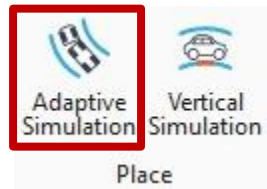

Figure 25 – Place Adaptive Simulation
2. Choose Adaptive Simulation in the Place Toolbox (**Figure 25**) and click the beginning of the spline drawn in Step 1.